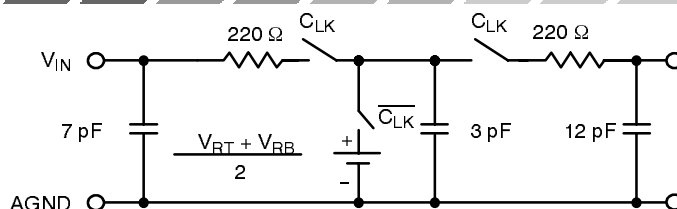

Figure 3. Input Equivalent Circuit
- ⁴ See V_{IN} input equivalent circuit (Figure 3.). Switched capacitor analog input requires driver with low output resistance.
The ideal ADC is a linear building block that has infinite bandwidth and no phase distortion. A real ADC, however, exhibits finite bandwidth and non-constant group delay characteristics as well as non-linear behavior due to the non-zero INL characteristic. When modeling the ADC as a linear element and a quantizer, the circuit shown in Figure 3. can be used in order to represent the ADC's bandwidth.
1. Driving the analog input – The input impedance can be represented as a switched capacitor type input circuit, i.e. the input impedance changes with the phase of the input clock. Figure 3. shows an equivalent input circuit. In many applications, the input impedance can be treated as capacitive. For fast signals and a high driving impedance, a wide bandwidth op amp is recommended.